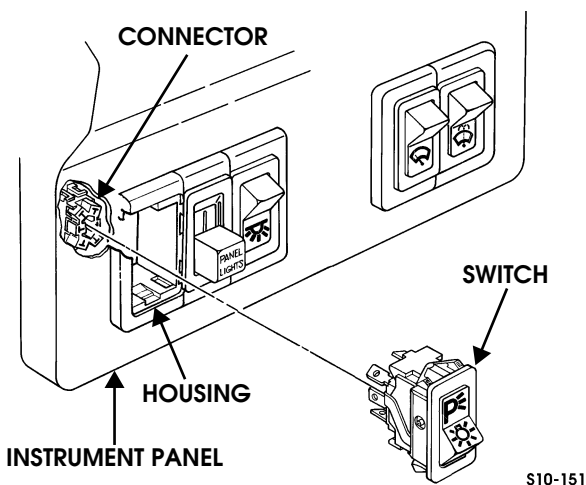

Figure 10-19: Instrument Panel Switch Replacement
3. Remove connector from switch (Figure 10-19).
1. Install connector on switch (Figure 10-19).